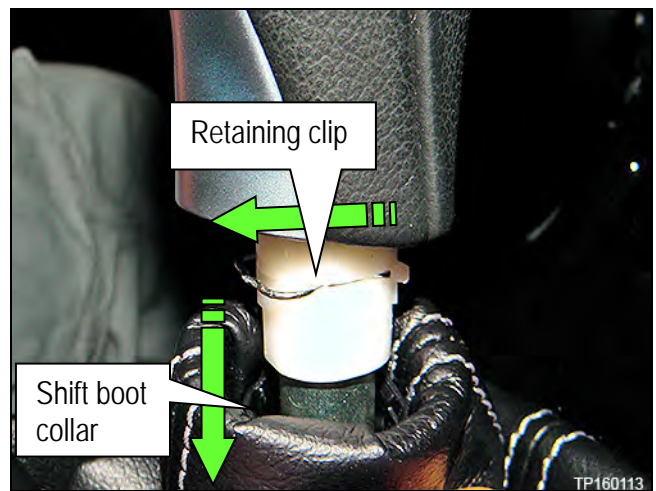

Figure 16D
a. Pull the shift boot collar down (Figure 16D).
b. Remove the retaining clip (Figure 16D).